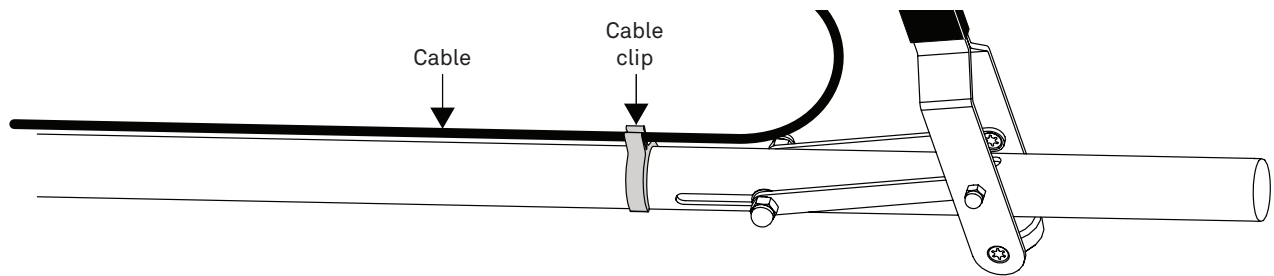

Figure 14 Cable clip on handle
4. Press the sensor cable into the cable clip attached to the handle rod below the lever (Figure 14).